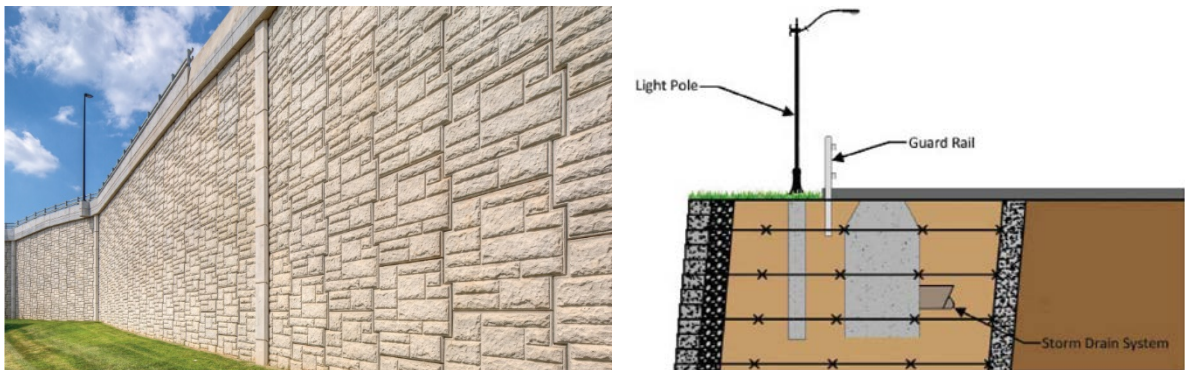

Figure 1: Examples of MSE walls
2. **Background** – MSE walls have root to prehistoric builders who used sticks and branches to reinforce soil structures. The modern use of reinforced soils dates to the 1960s and French architect Henri Vidal's development of the Reinforced Earth® system. In the US, the first MSE wall was built on California SR-39 near Los Angeles in 1971. Sometimes the construction of MSE walls must account for underground utilities, tunnels or other obstructions (Figure 1). This year's competition will model these obstructions requiring teams to design and construct a MSE wall around a proposed tunnel.